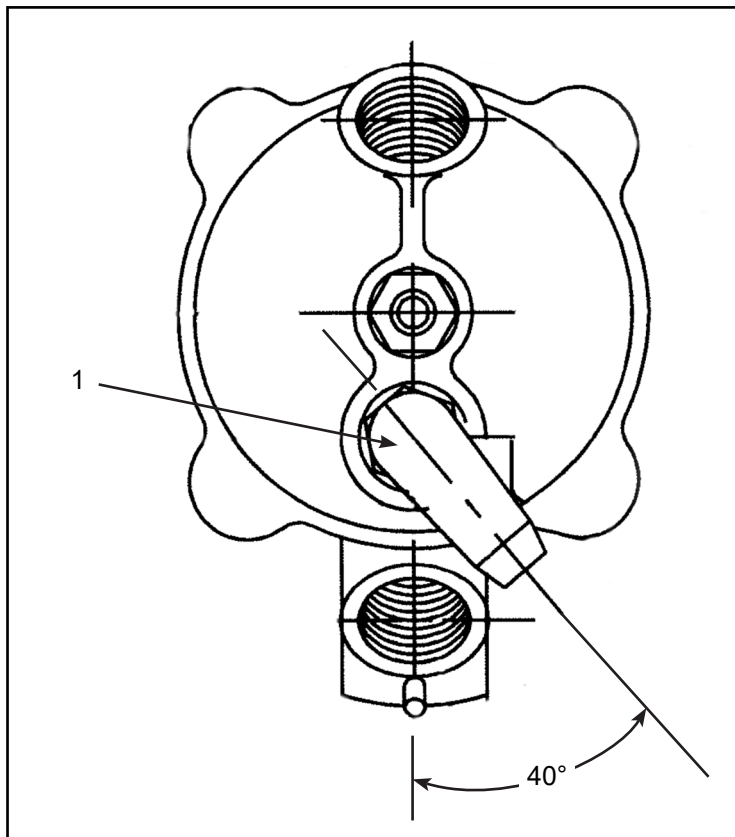

Figure 1 - Exhaust Bypass Valve P/N 470842-0009
- 1) Install the O-ring (2) onto the elbow fitting (1), careful not to cut or nick the O-ring (2).
- 2) Apply a thin coat of engine oil to the O-ring (2) and install the elbow fitting (1) with O-ring (2) into the oil inlet port.
- 3) Orient the elbow fitting (2) at 40 degrees as shown in Fig. 1 and torque to 7-9 ft-lbs.